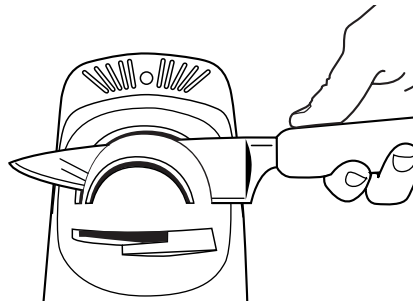

Figure 2
5. Press down and hold the Operating Lever. Insert the blade into the slot and slowly draw the blade to the right with a slow, even motion, as shown in Figure 2. Alternate from one sharpening slot to the other until desired sharpness is achieved.